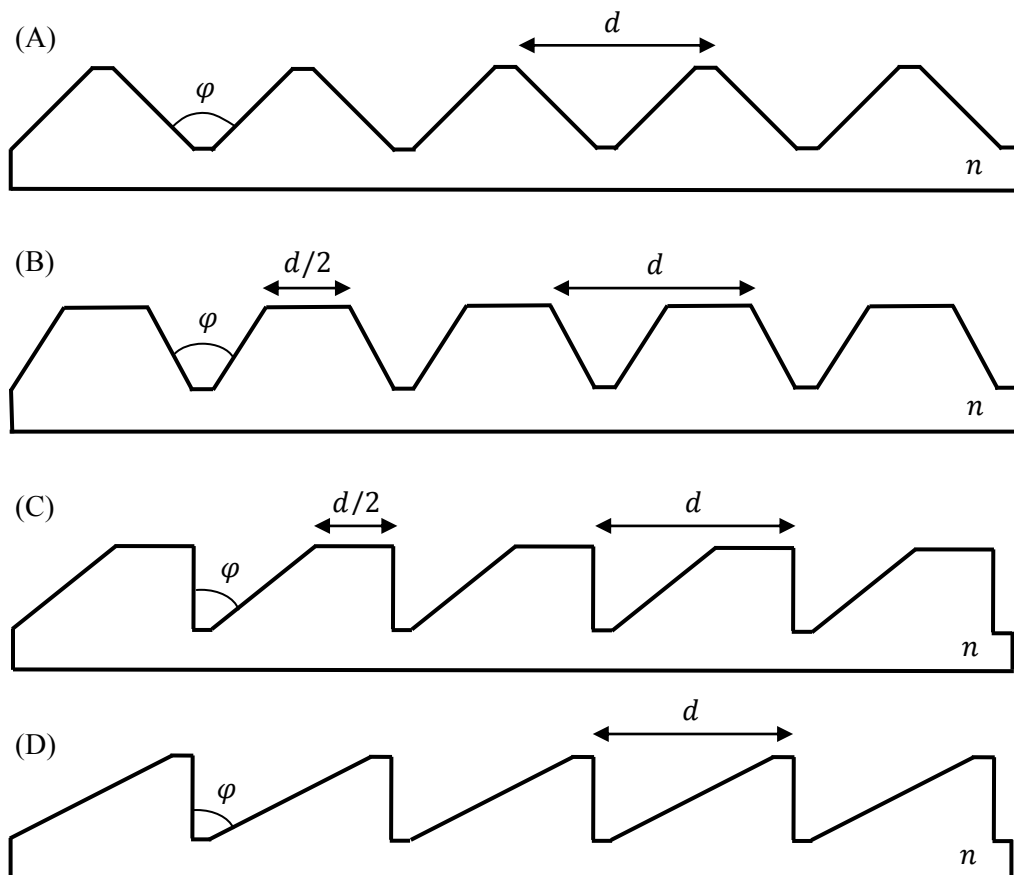

Figure 5: Different possibilities for the sample's structure.
- b. (0.5 pts.) Figure 5 illustrates schematically four possibilities for the sample's microscopic structure.  $n$  stands for the refractive index of the plastic. Choose the structure that best fits your observations. Note: the 5 periods shown in the figure are for illustration only. In reality,  $d$  is small, and the sample contains many periods.